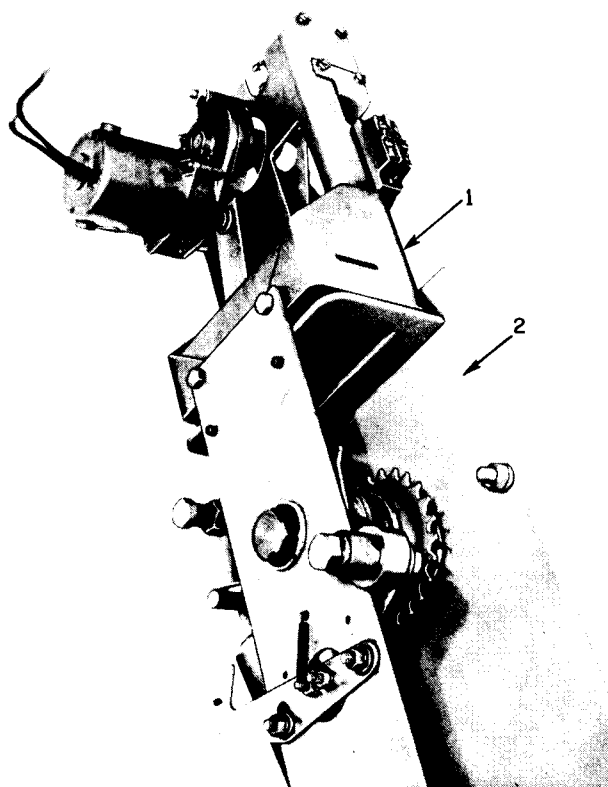

Fig. 4
The motor charging attachment (1), Fig. 4, is added to the manual spring operator (2), to permit remote or automatic operation.